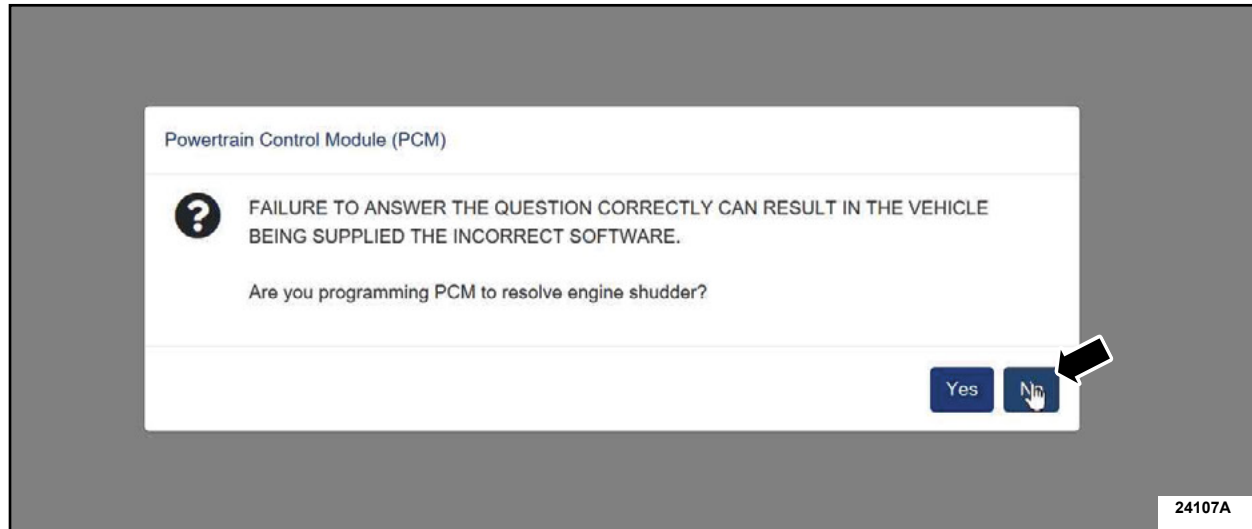

FIGURE 1
8. When prompted with the question "Are you programming PCM to resolve engine shudder", select **NO**. See Figure 1.